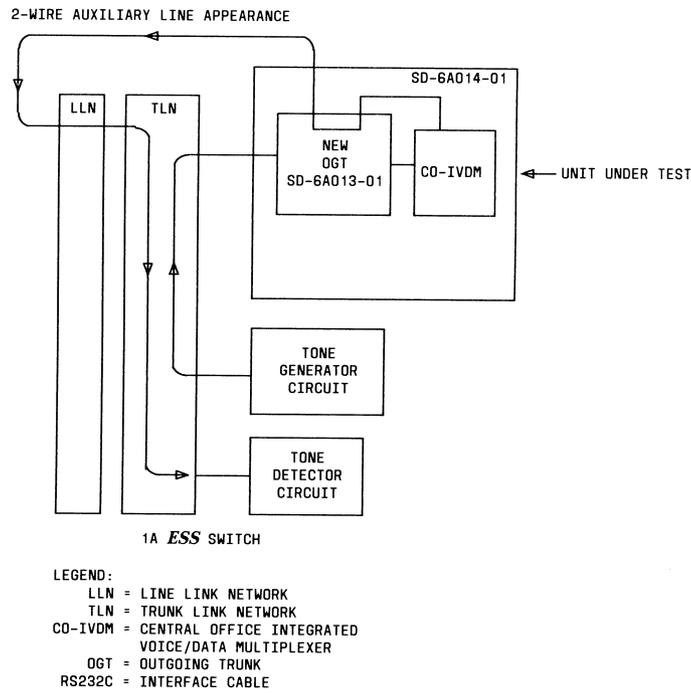

Fig. 29 — Voice Diagnostic Configuration
The voice diagnostic test (Fig. 29) tests the relays of the CDFP OGT, verifies network continuity to the CDFP line appearance, and verifies the quality of voice as it passes through the CO-IVDM. This test may be requested by performing Step (1) or Step (2).
- (1) If testing at the TLTP, dial 6-digit TNN, then dial *00 and #. Refer to AT&T Practice 231-050-009 for detail procedures.
- (2) If testing at MTCE terminal, type one of the following: